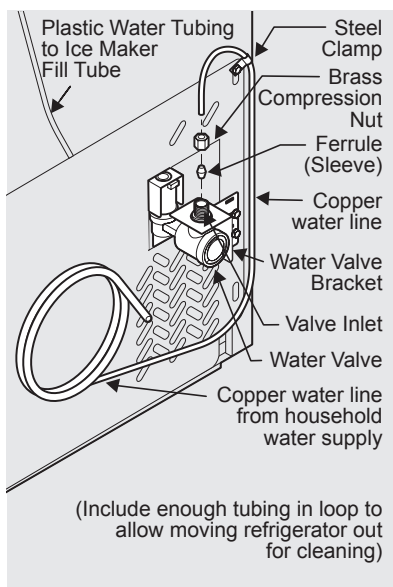

Figure 1
4. If you use copper tubing - Slide brass compression nut, then ferrule (sleeve) onto water supply line. Push water supply line into water valve inlet as far as it will go (1/4 inch/6.4 mm). Slide ferrule (sleeve) into valve inlet and finger tighten compression nut onto valve. Tighten another half turn with a wrench; **DO NOT** overtighten. See Figure 1.